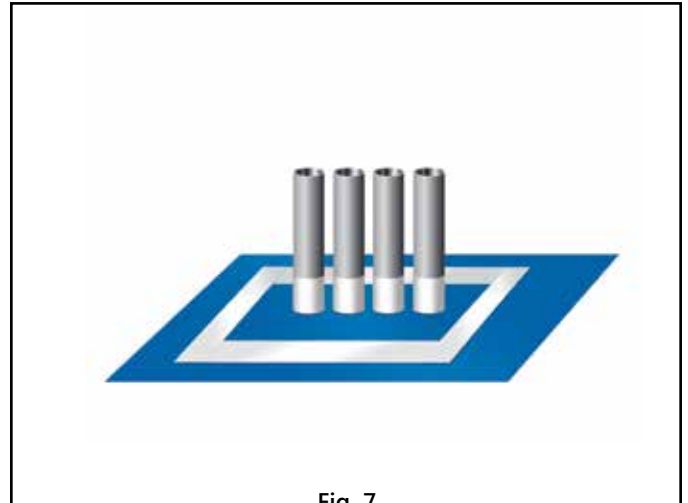
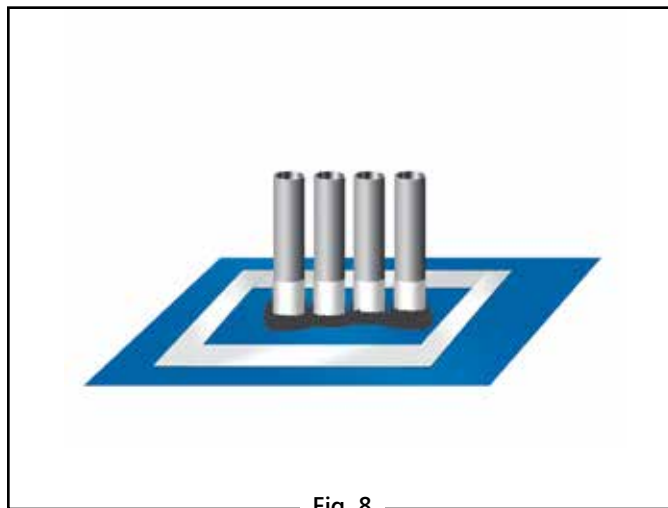

Fig. 7
Fig. 8
- D) Tape around each of the penetrations and the patch with VaporBond 4" Tape. (Fig. 7) For additional protection apply an acceptable polyurethane elastomeric sealant around the penetrations. (Fig. 8)